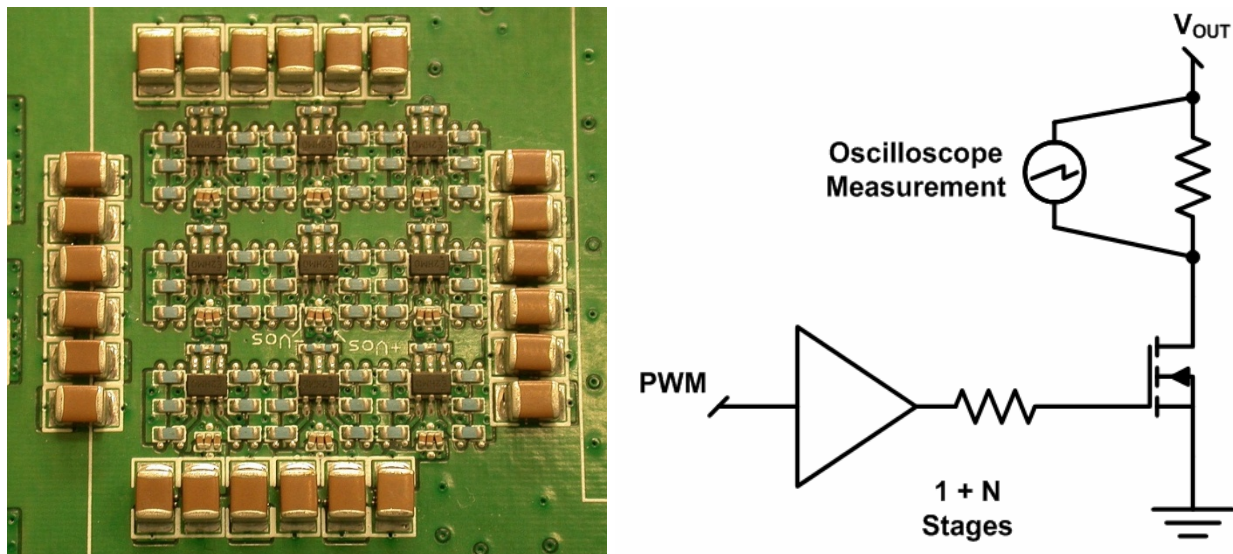

Fig. 11 Embedded High Slew Rate Load Design
* Note: the transient current load is a resistive load and the voltage across it is measured instead of current due to ESL limitations. For more details, please refer to figure 11 through 15.